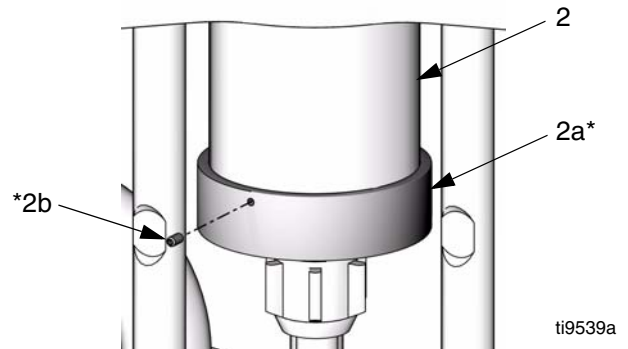

FIG. 3. Install Collector
8. Jog motor to move slider piston (9) to bottom of stroke, allowing reconnection of coupling nut (14).
9. Ensure that the collars (13) are in place in the coupling nut (14).
10. Place a 3/4 in. wrench on the flats of the slider piston (9), to keep it from turning when you are tightening the coupling nut (14). Orient the wrench so it is braced against one of the tie rods (3) or the stand. Tighten the coupling nut (14) onto the slider piston (9) and torque to 75-80 ft-lb (102-108 N•m).
11. See FIG. 3. Push the collector (2a*) up onto the bottom of the slider cylinder (2) so it seats securely. Install the three setscrews (2b*) finger-tight.